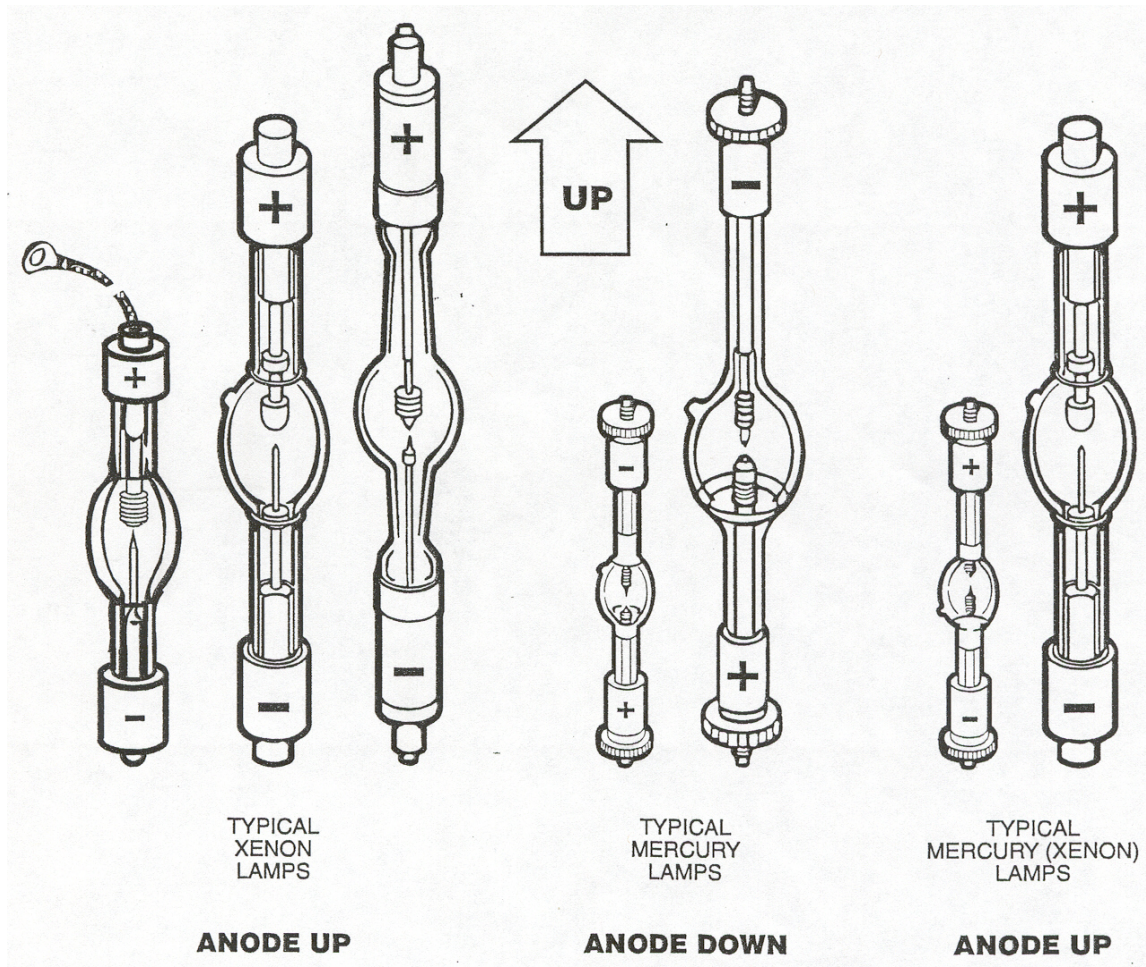

Figure 3
- Determine which orientation is correct for the lamp. For xenon and mercury(xenon) lamps, the anode (+ve) is at the top. You can identify the anode by a + stamped on the lamp base. Any lamp identification writing or numbers will be the correct way up when the lamp is held in the correct operating orientation. See Figure 3 for a diagram.